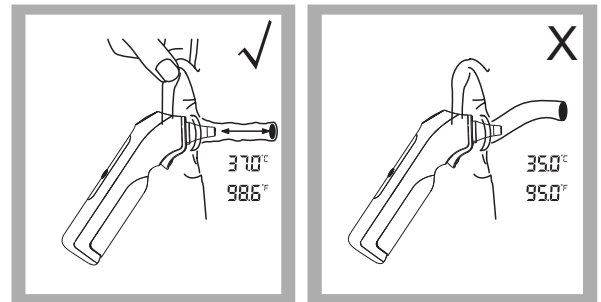

Figure 3
3. Insert the probe along the ear canal as deep as possible into the ear as depicted in Figure 3. Then press the **Test BUTTON** once to start the measurement. A long beep will sound approximately 1 second after the **Test BUTTON** is activated. This signals the end of the process as results are displayed on the LCD screen.